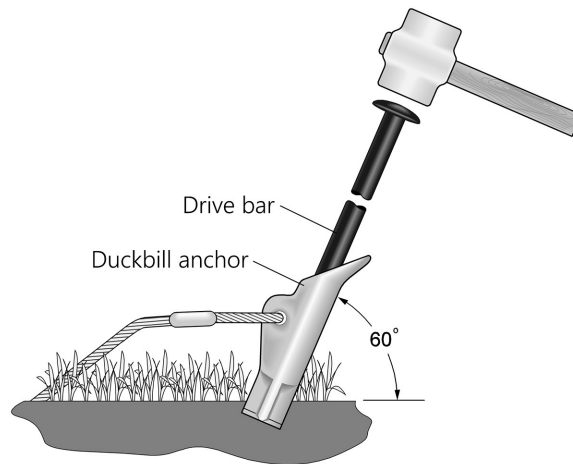

FIGURE 7-29. UTDK duckbill guy anchor being driven into the ground
1. Locate the three anchor locations (Base and Guy Anchor Layout (p. 10)). It is important that the anchors be driven at the same angle as the guy wires (FIGURE 7-29 (p. 35)). Insert the steel drive bar into the anchor body and drive the anchor into the ground by using a fence post driver or sledgehammer until only the top half of the loop remains above the ground.